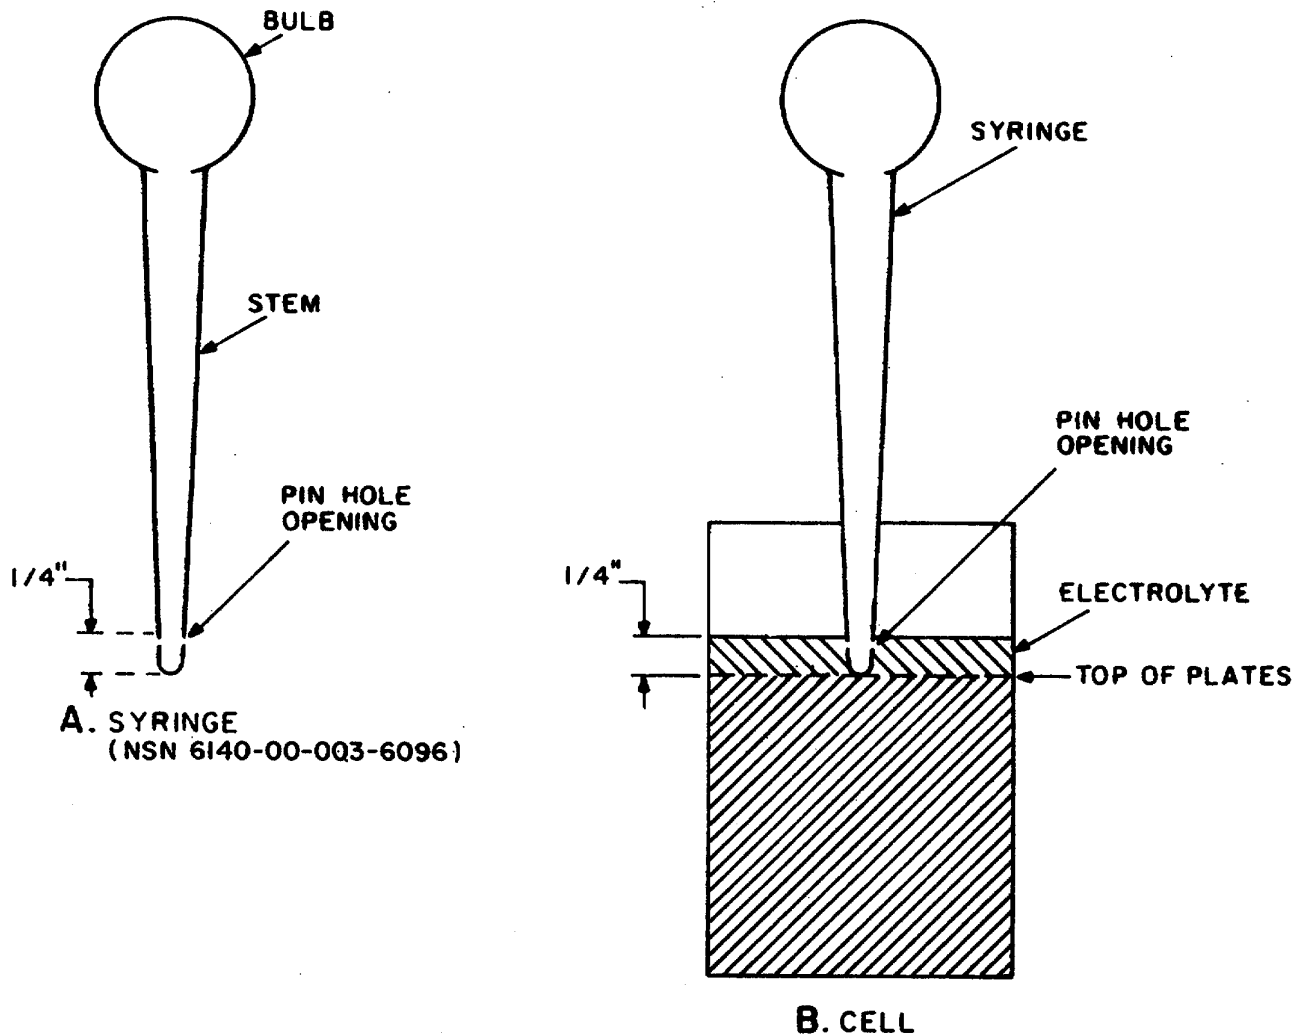

Figure 5-2. Electrolyte Level Adjustment
- (1) Use a sharp pin that has been heated with a flame from a match to pierce the stem of the syringe one-fourth inch from the bottom of the stem (A, fig. 5-2).
- (2) Let the pin remain in the stem for 2 or 3 minutes and then withdraw the pin slowly from the stem.
- c. Use the stem-pierced syringe, filled with distilled water item 9, app E), insert the syringe into the cell until it rests on the top of the plates (B, fig. 5-2). Slowly squeeze the contents of the bulb until the bulb is empty or the electrolyte is just below the mouth of the cell. Avoid overfilling.